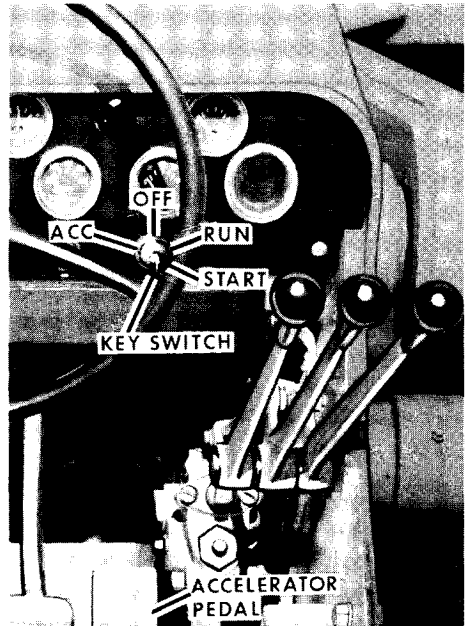

Figure 37
1. Turn the key switch counter-clockwise (fully to the left) to the accessory position. Hold the key in this position for about 30 seconds, Figure 37.